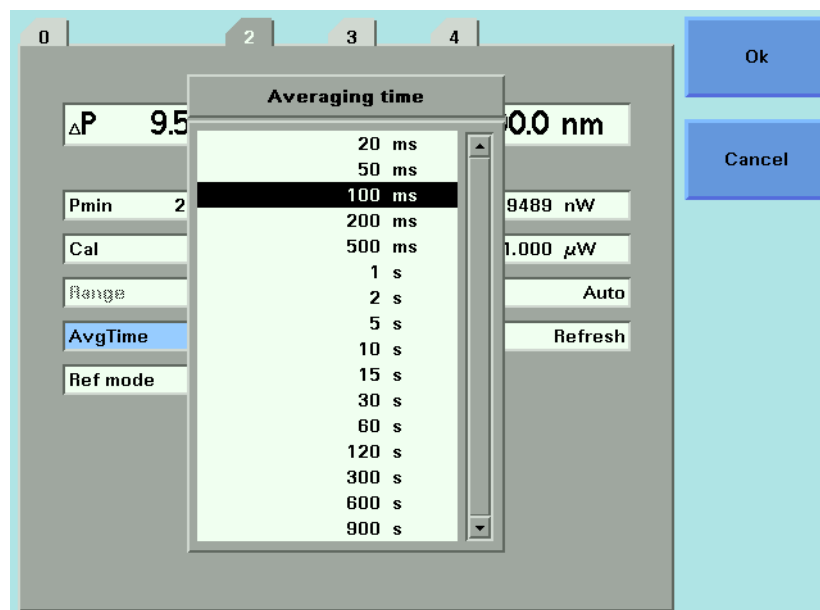

Figure 24 Averaging Time Menu
- 2 Move to the <*Averaging Time*> parameter and press *Enter*. You see the screen in Figure 24.